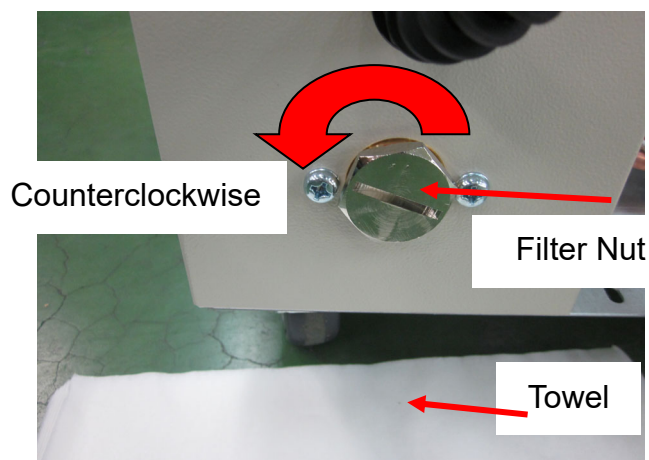
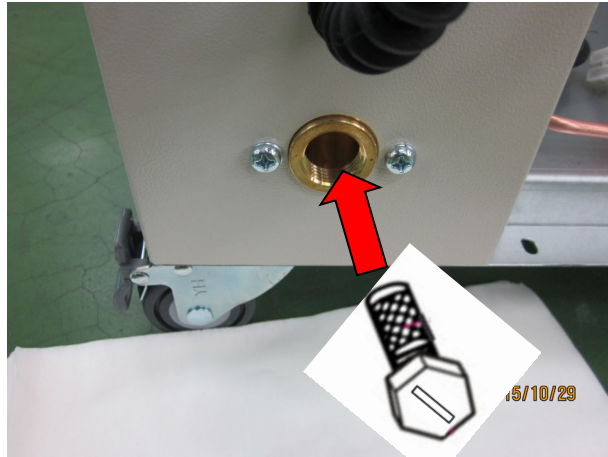

Figure 51
Figure 53
- Clean the filter use a wrench (or Knife Screwdriver) to unscrew the filter nut counterclockwise as shown in Figure 51 to Figure 53.
Take out the filter carefully, and flush it with water to clean it. Assemble it back as shown in Figure 53.